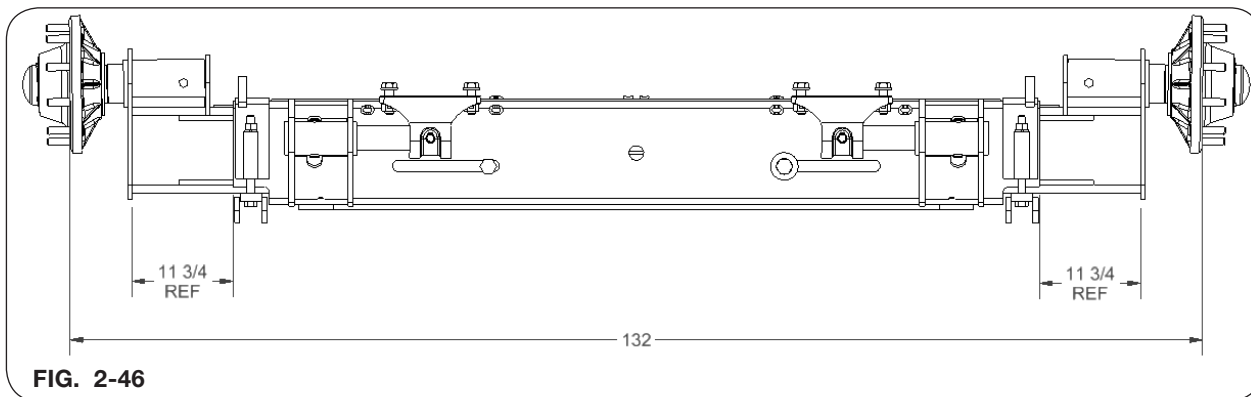

FIG. 2-46
4. Slide extensions to desired tire gauge spacing. Axle extensions should be extended equally. Refer to chart below and (Fig. 2-46).